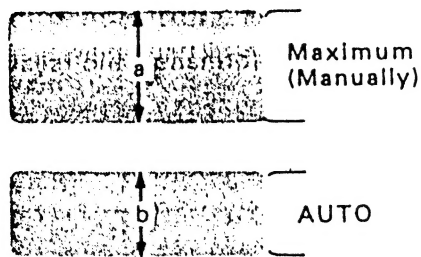

Fig.24 FM output level
- d) Confirm that the level difference between this setting and the maximum level obtained manually as shown in Fig.24 is: